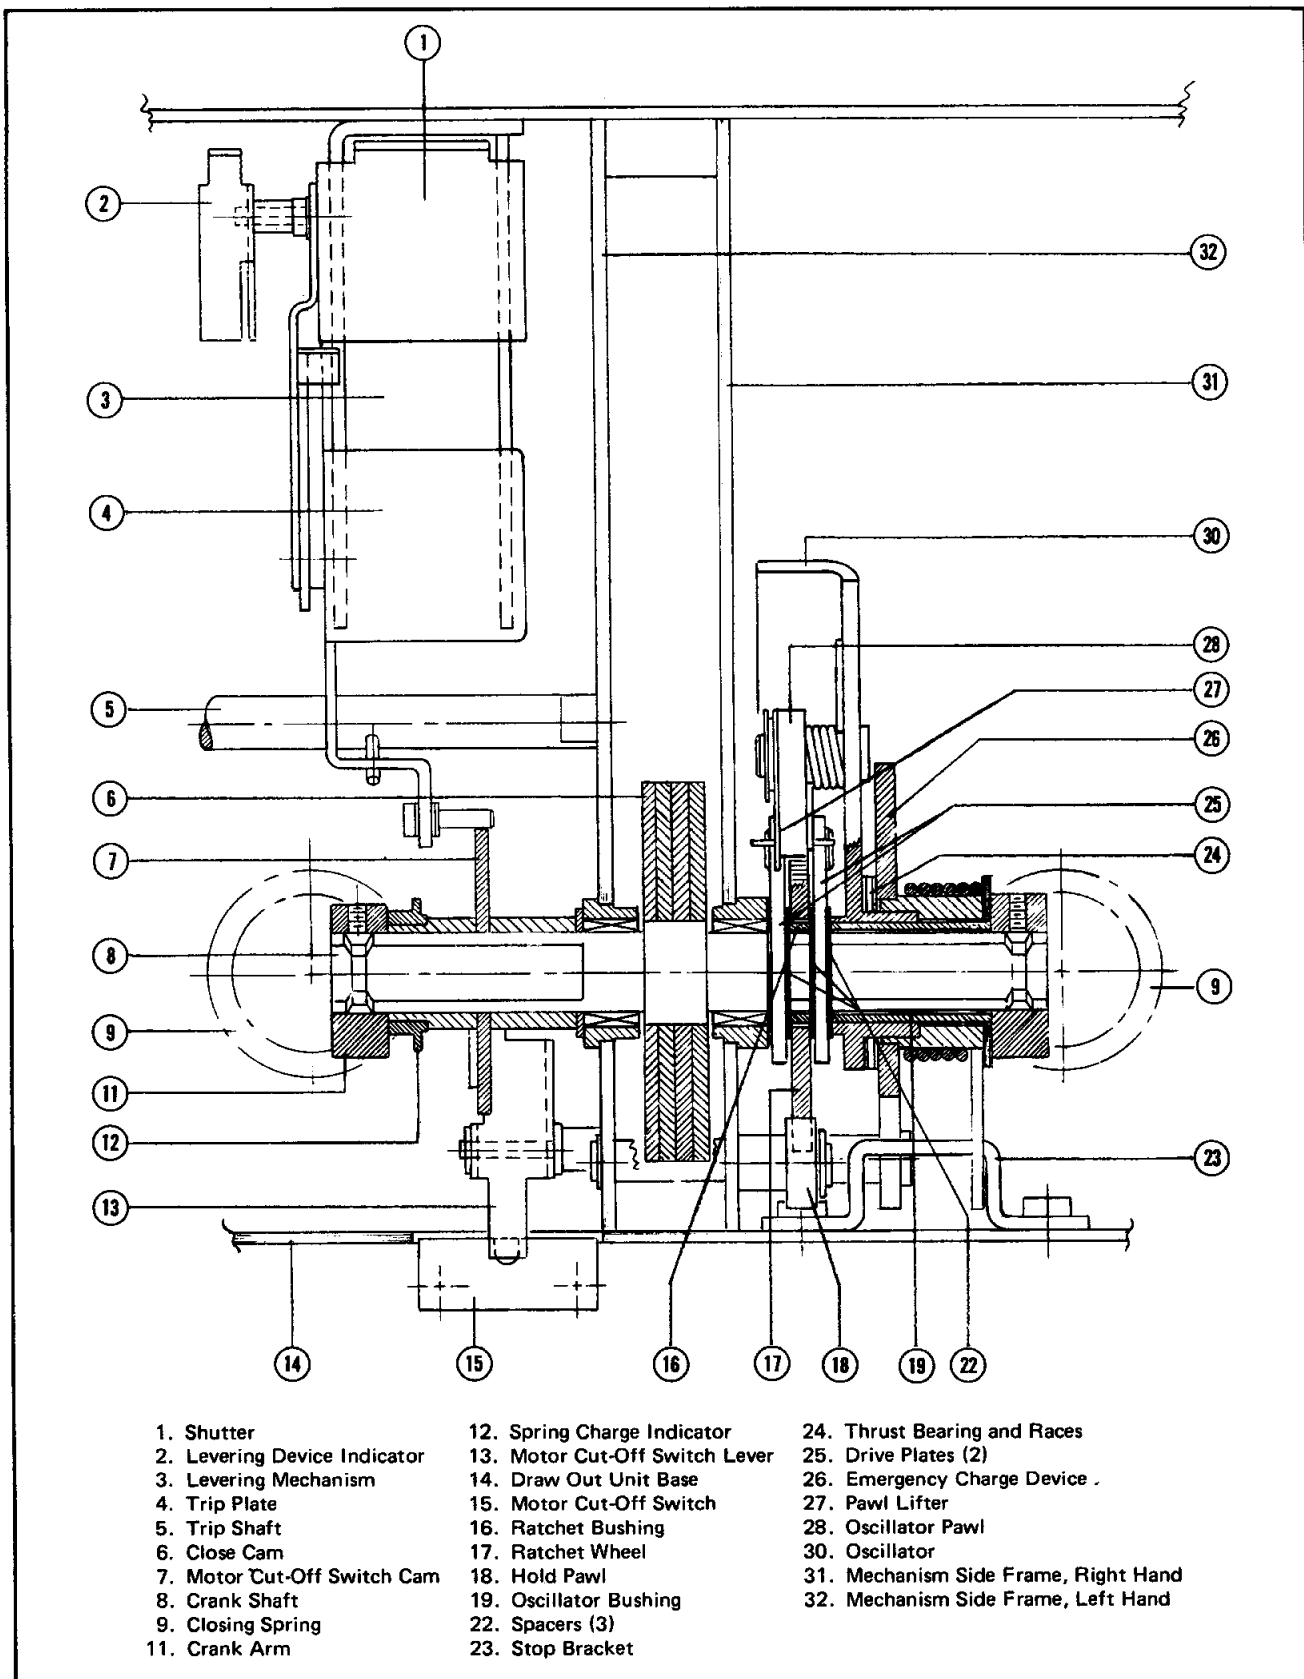

Fig. 15 Front View Showing Major Parts of the Crank Shaft Assembly. Some Parts are Omitted for Clarity
Figure 15 is a front view drawing showing the principal parts of the spring-charging portion of this mechanism. Other parts are omitted for clarity. Figures 16a and 16b show in greater detail the major parts of the spring-charging mechanism in the two basic positions:
Referring to Figure 15, the basic elements are mounted on the crank shaft (8). This is a straight shaft with four flats machined on it, and a crank arm (11) attached to each end. Each crank arm connects to its closing spring (9) by a formed spring end (10) Figure 16b. The rear of the springs anchor to the rear of the mechanism frame. The crank arms (11), motor cutoff switch cam (7), close cam (6) and two drive plates (25) have matching flats; and are thus anchored to the crank shaft. The spring charge indicator (12) ratchet wheel (17), oscillator (30), and emergency charge device (26) do not have internal flats but are mounted on separate bushings and are free to rotate on the crank shaft.